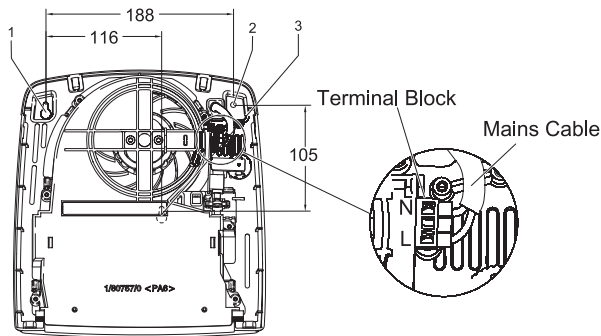

Fig. 2
The appliance is secured to the wall with three screws, two through keyhole slots '1' & '3' and one through a hole '2' to hold the appliance firmly in position (see Fig. 2).
2. Mark the position of the two keyhole slots '1' & '3' (see Fig. 2 for dimensions) on the wall and drill and plug for the two suitable screws.
7. Make electrical connections to the terminal block ensuring that the live connection is made to the terminal marked 'L' and the neutral connection to the terminal marked 'N' (see Fig. 2 exploded view).